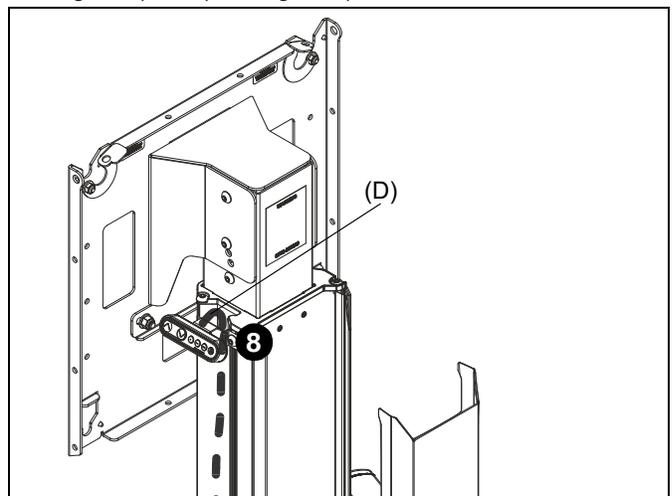
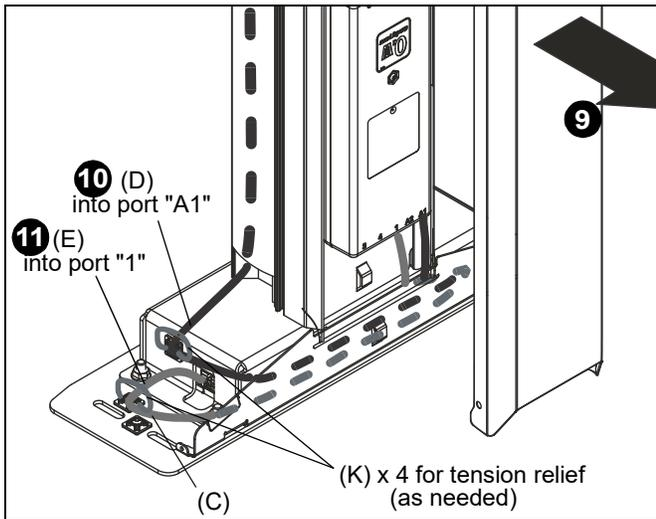
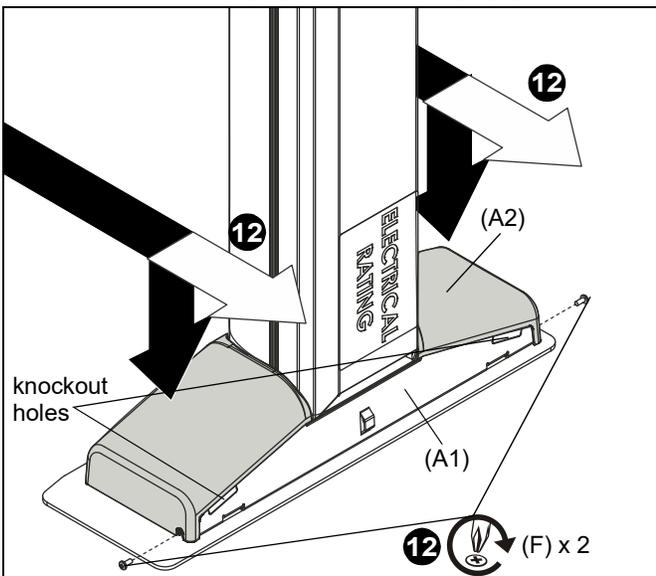

Figure 5
Figure 6
Figure 7
7. Secure control pad (D) into control pad bracket (S). (See Figure 5)
8. Route control pad cable (D) through side channel. (See Figure 5) and (See Figure 6)
9. Remove back cover to expose control box. (See Figure 6)
10. Route control pad cable (D) behind bottom back cover (A1) and into port A1 on control box. (See Figure 6) and (See Figure 7)
11. Route motor cable (E) behind bottom back cover (A1) and into port 1 on control box. (See Figure 6) and (See Figure 7)
NOTE: Knockout holes can be created on A1 bracket for another cable routing option. (See Figure 7)
12. Slide lower cover (A2) onto column assembly (P) and use two 8-32 x 3/8" Phillips pan machine screws (F) to secure bottom back cover (A1) to lower cover (A2). (See Figure 7)